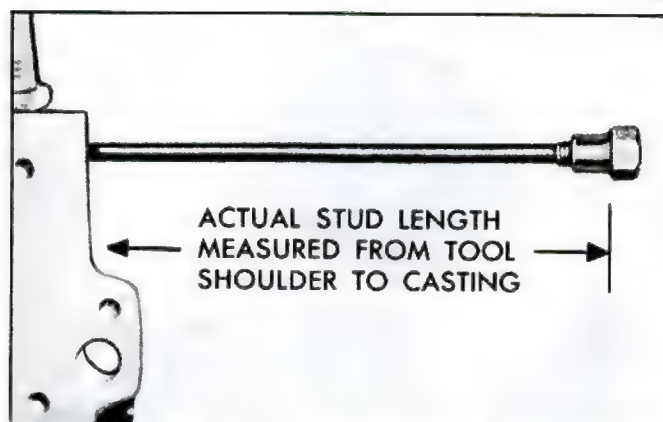

Fig. 109—Installing Studs
1. To install crankcase studs, install long cylinder studs to a projected length of 8-9/32" and short cylinder studs to a projected length of 7-9/16" (fig. 110) using Tool J-8354-1 (3/8-24) (fig. 109). For easy measuring of stud installed length, measure from Tool J-8354-1-2-3 shoulder.